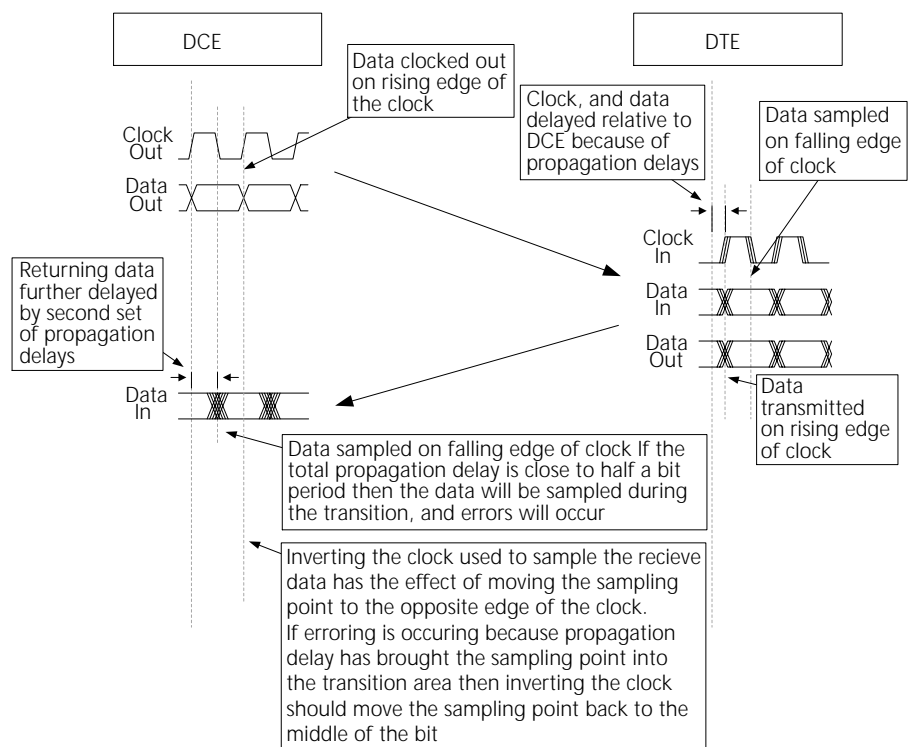

FIGURE A1 - RECEIVE CLOCK INVERSION
**INVERT RECEIVE CLOCK** – Causes the AM2048 to sample the incoming data on the rising edge of the TX clock instead of the falling edge. See Figure A1 for more information. This is available for both V35, and X21.